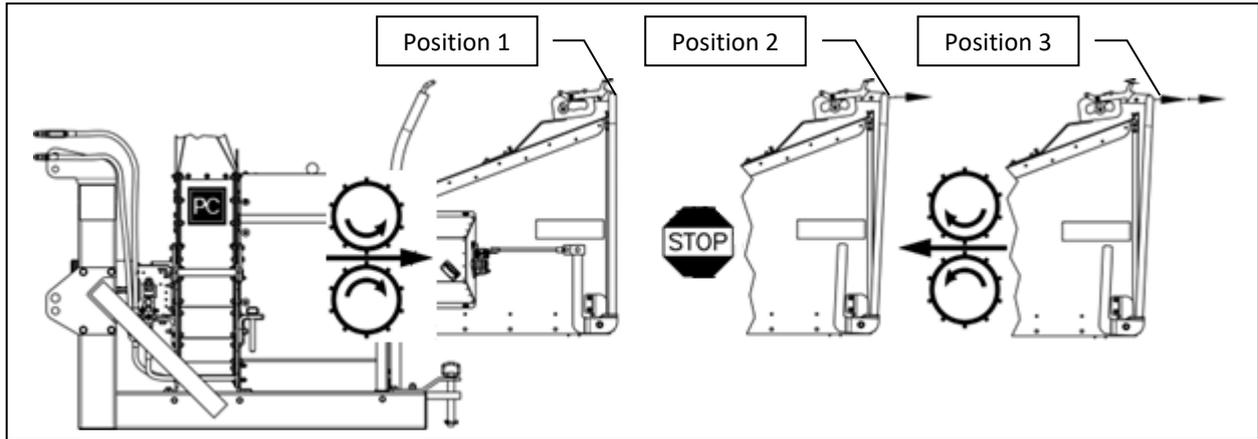

Figure 5
The 3 positions are described at Figure 5.
When starting the chipper, make sure that the feed roller(s) rotate correctly in relation to the position of the guide bar (see Figure 5). If this is not the case, it is checked whether the hydraulic hoses are correctly fitted. A description of this can be found in section 7.13.
6. Put the handlebar in the 3rd position (see Figure 5).